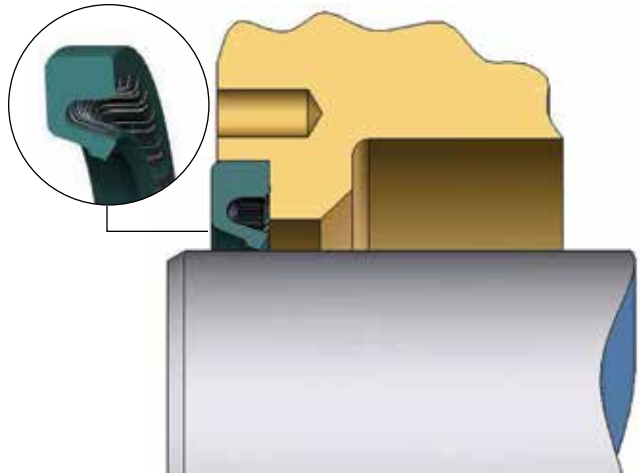

Fig. 64. The seal should slightly protrude from the housing surface.
- Once the seal is properly seated in the housing bore, it should protrude from the housing surface by 0.381 mm (0.015 in.), as shown in Fig. 64. The 0.015 in. protrusion is built into the width of the seal. The depth of the bore housing should be machined to the seal width specified on the packaging.